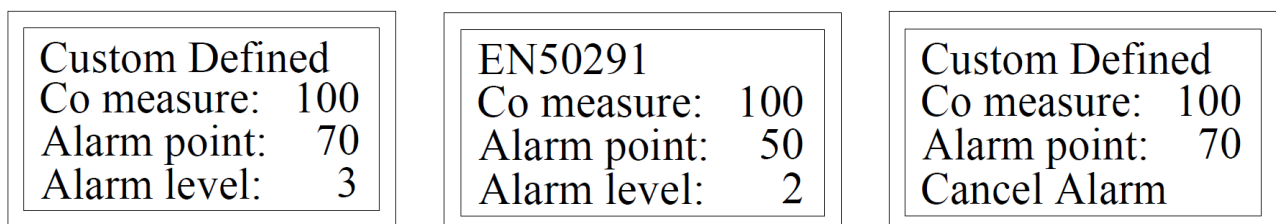

Figure 3
6. Audible alarm description for CO. When the CO measured value exceeds the alarm set point, on-board buzzer and LED audible alarm output. When an alarm occurs, the red LED light is on, the buzzer sounds for 100 milliseconds. When red LED light is off, the buzzer doesn't sound for 100 milliseconds. This will be cycled four times. Then when red LED light is off, the buzzer doesn't sound for 5 seconds. After this cycle takes over 4 minutes, the stop time will be changed from 5 seconds to 1 minute, until CO measured value decreased to that the alarm is released automatically or press the **SET** key to force release. Afterward, the LED and buzzer will stop output. Please note when to press the **SET** key to force release, only audible alarm stops output, the relay is still running according to the control logic. When CO alarm, the alarm will be cancelled if pressed **SET** button once, then press again to continue the alarm. When CO alarm, the screen will show alarm information, and the page of alarm information and measured value will display alternately every 10 seconds. The page of alarm information is displayed as follows. As shown figure 3.